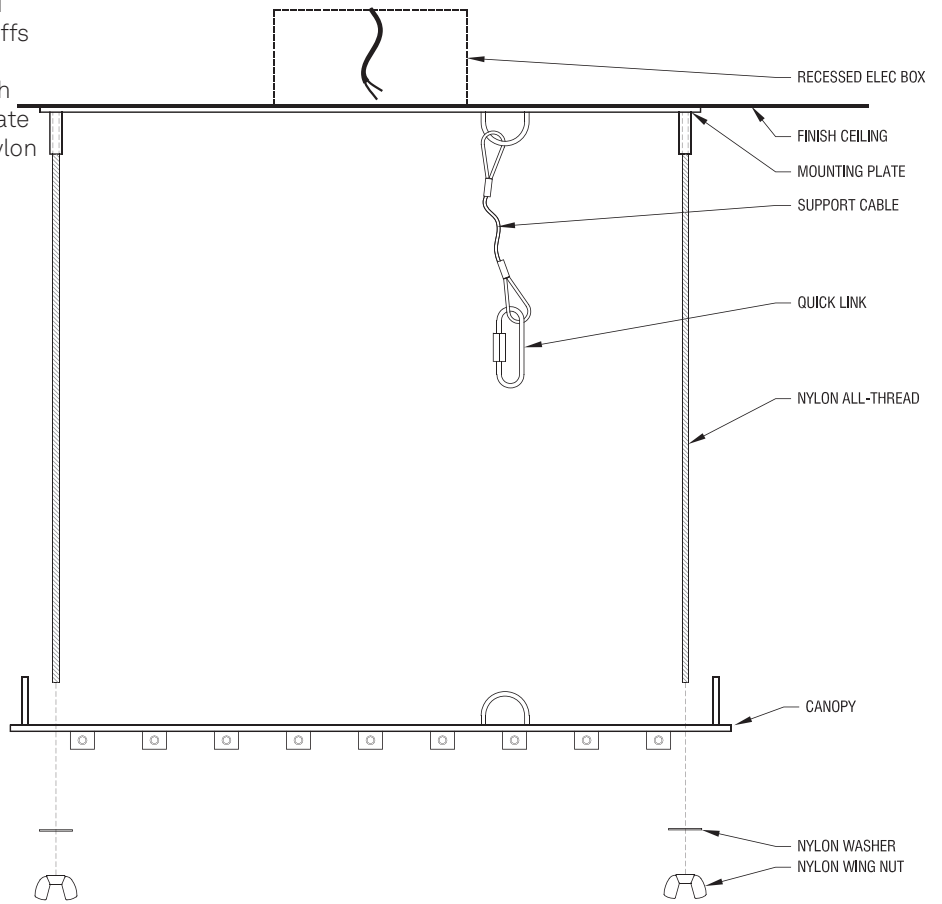

Figure 3. Install nylon all-thread rods into mounting plate and slide canopy up over rods
- 5 Fully thread each of the provided all-thread rods into each of the two threaded stand-offs on the mounting plate (Figure 3). Slide the canopy up and over the all-thread rods such that each rod passes through the appropriate hole in the canopy. One at a time, slide a nylon washer up over each all thread and thread on a wing nut. The canopy should be level lengthwise.